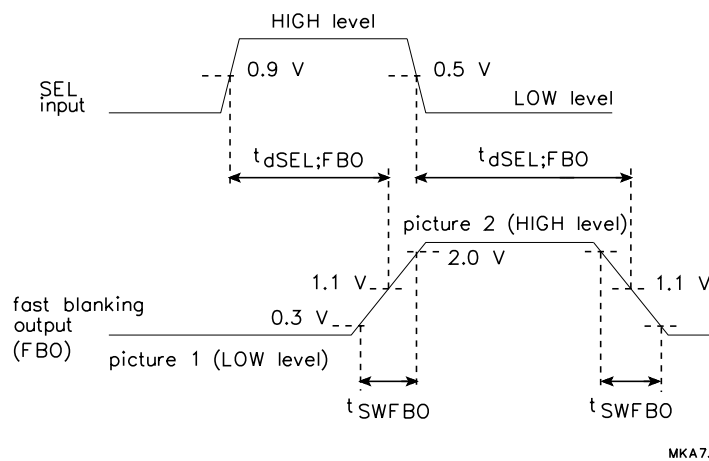

Fig.4 Timing definition: SEL and FBO.
5. The delay between the SEL input and fast blanking output together with the switching time of fast blanking output is illustrated in Fig.4.